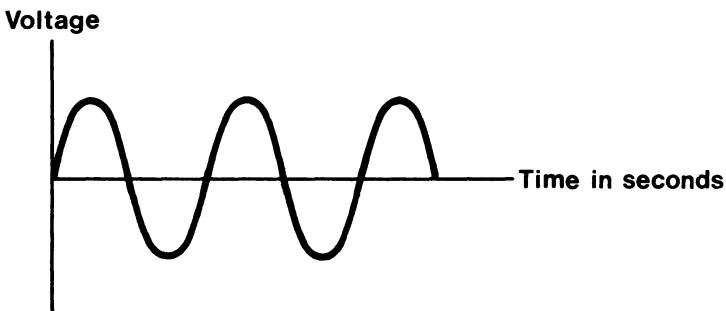

FIG. 3.39
(b) The output of the transformer varies with time as shown in Fig. 3.39. Is the maximum voltage greater than, equal to, or less than 12 V? Explain your answer. (4)